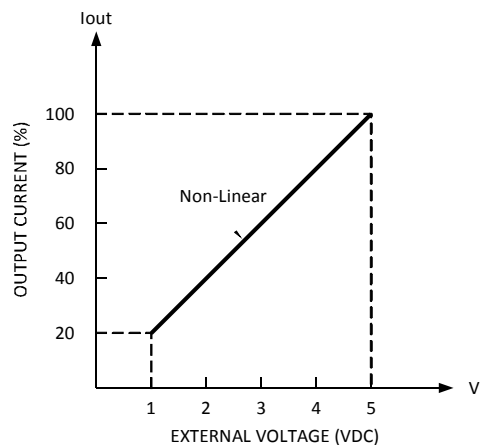

Fig 4.2
(3)Trimming of output current is allowable between 20~100%(Typ.) of the rated output current as shown in Fig 4.2.